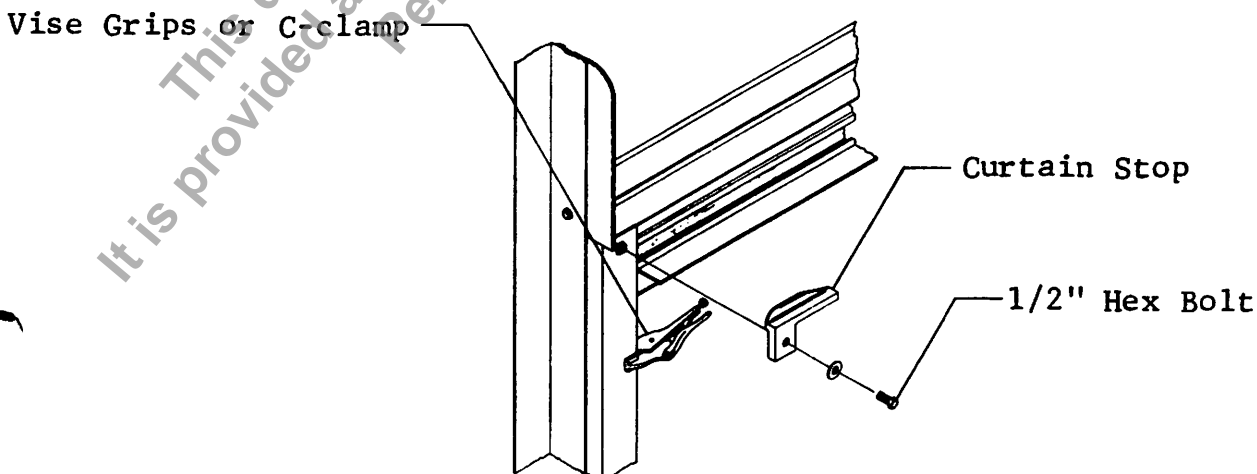

FIGURE 9
STEP 9 Lower the bottom bar of the curtain into the guides and attach the curtain stops to the top of each guide. See Figure 9. Put a c-clamp on both guides 6" from the top of the guide to stop the downward travel of the door.
**NOTE!** Door must be clamped in the full open position before winding the springs. See Figure 9.